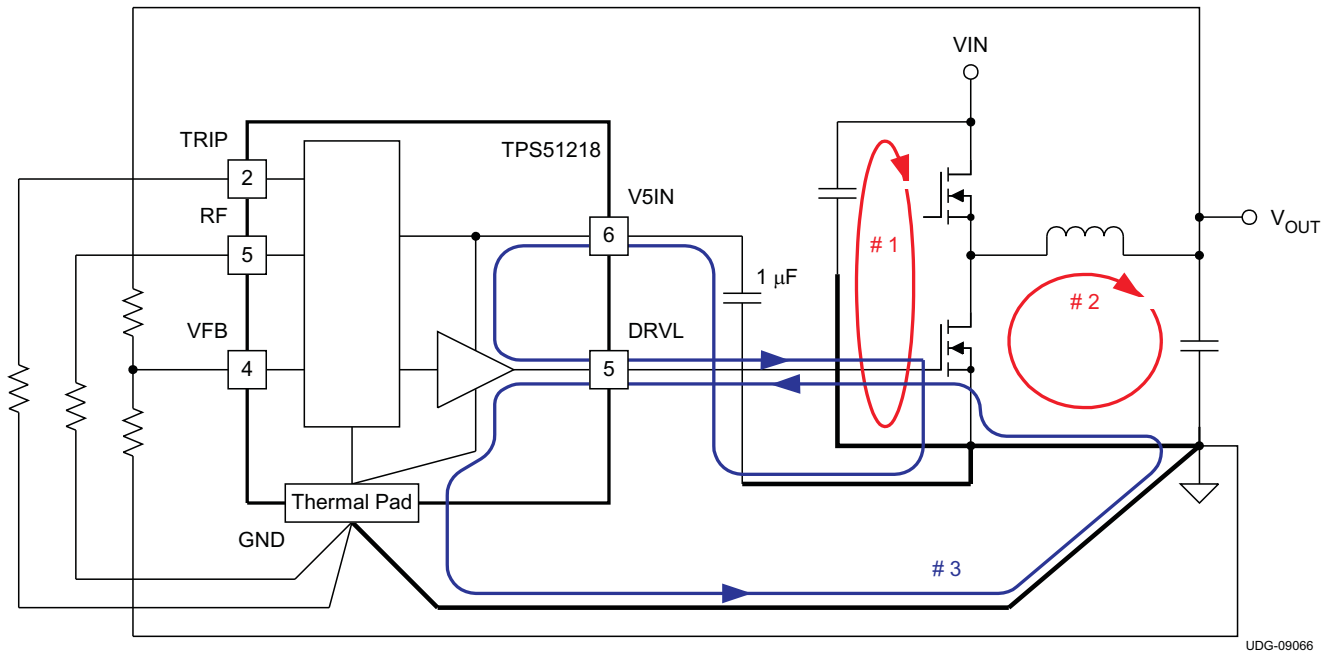

Figure 19. Ground System of DC/DC Converter Using the TPS51218
- The most important loop to minimize the area of is the path from the  $V_{IN}$  capacitor(s) through the high and low-side MOSFETs, and back to the capacitor(s) through ground. Connect the negative node of the  $V_{IN}$  capacitor(s) and the source of the low-side MOSFET at ground as close as possible. (Refer to loop #1 of Figure 19)
- The second important loop is the path from the low-side MOSFET through inductor and  $V_{OUT}$  capacitor(s), and back to source of the low-side MOSFET through ground. Connect source of the low-side MOSFET and negative node of  $V_{OUT}$  capacitor(s) at ground as close as possible. (Refer to loop #2 of Figure 19)
from gate of the low-side MOSFET through the gate driver and GND pad of the device, and back to source of the low-side MOSFET through ground. Connect negative node of  $V_{OUT}$  capacitor, source of the low-side MOSFET and GND pad of the device at ground as close as possible. (Refer to loop #3 of Figure 19)